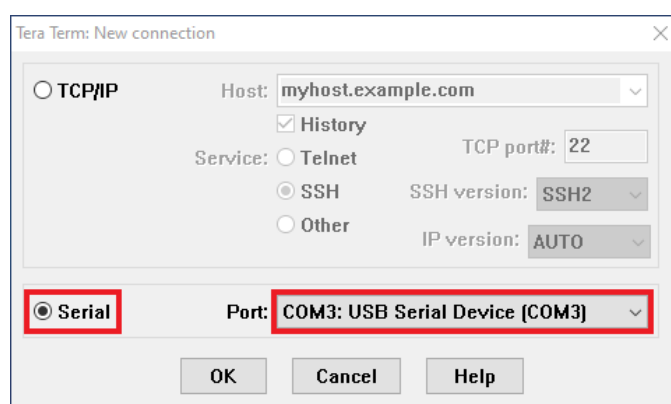

Figure 8. Tera Term New Connection Window
A terminal emulator program is needed for running the user interface (UI). A useful option is Tera Term, which can be downloaded from the Tera Term website. To initiate a terminal session, a new connection must be opened (Figure 8). The serial connection settings for the terminal software are given in Table 2. The PC user must have read/write access permission for the USB port.